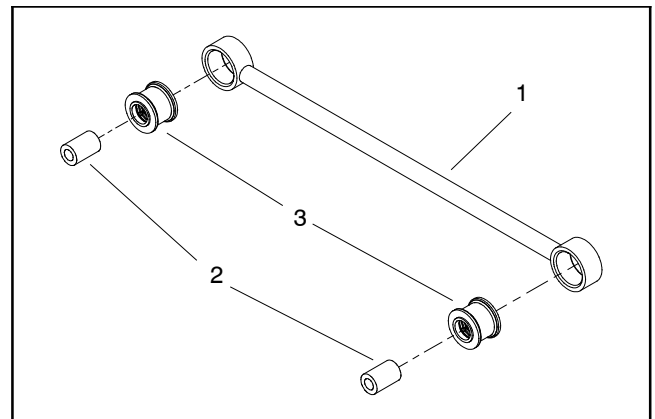

Figure 35
A. Check for wear in bushings in panhard rod assembly and replace bushings and or spacers if necessary (shown in Fig. 35).